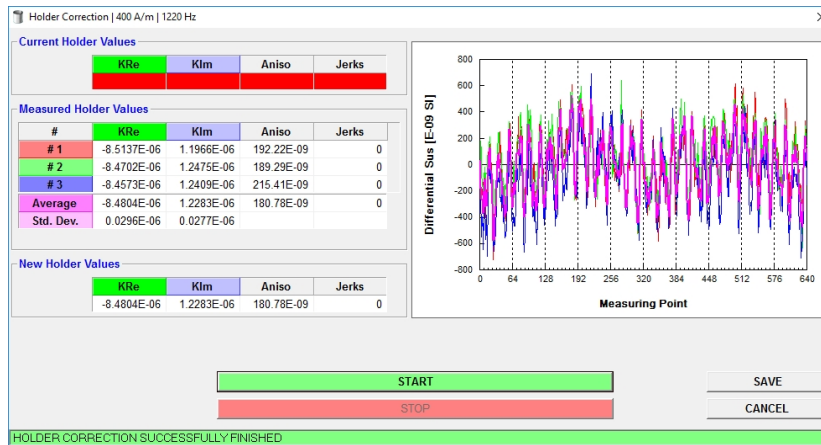

Figure 8: Holder correction window
1. Open the *Holder correction* window (Fig. 8, main menu, *Execution/Holder correction*, shortcut F4).
5. Results of holder correction can be saved by pressing the *Save* button (see Fig. 8).